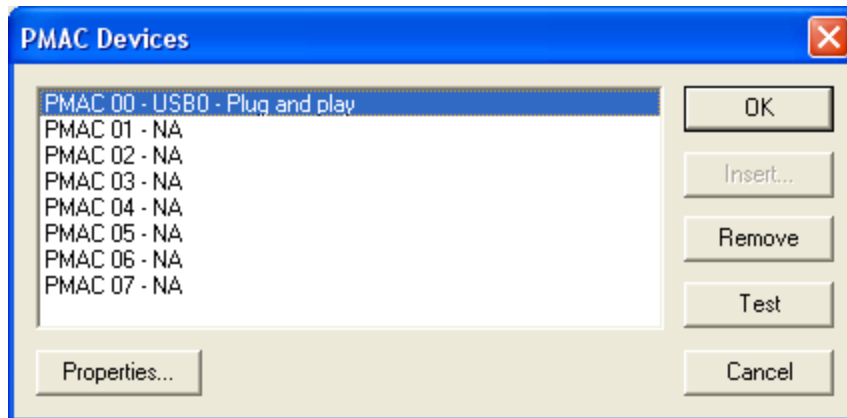

Figure 13: PMAC Devices dialog.
- Go to Setup → Force All Windows to Device Number. The device selection dialog opens (see Figure 13).